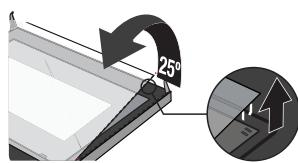

Figura 4
4. Ndajeni xamin me kujdes duke e ngritur afërsisht me  $25^\circ$ . (Figura 4)